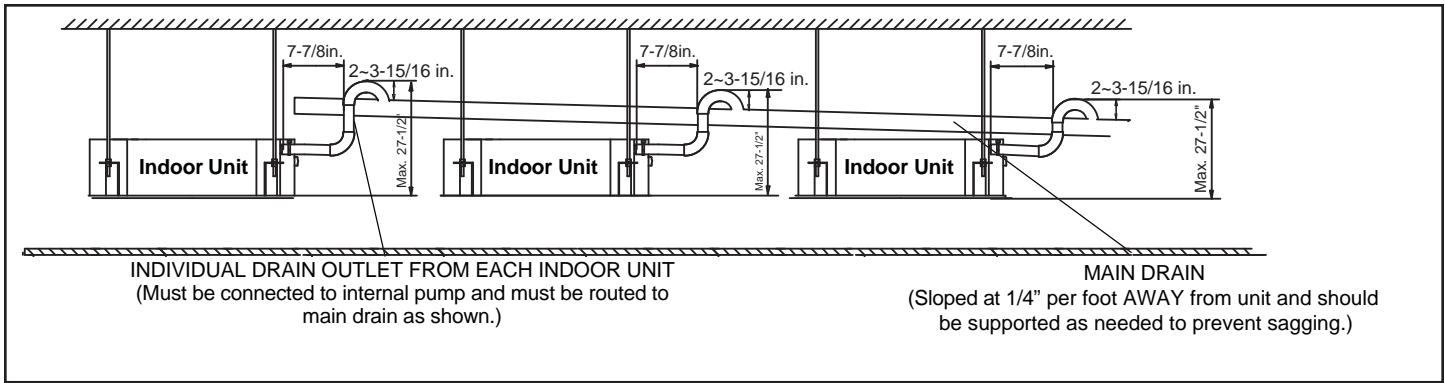

Figure 12. Using a Main Drain to Serve Multiple Indoor Units with Internal Condensate Pumps
5. See figure 12 for applications including multiple units using the internal pump to provide lift into a single, correctly sized main drain. In this case, ensure that the main drain line is properly sloped (no less than 1/4 inch per foot) and that each individual drain is connected to the main drain exactly as shown.